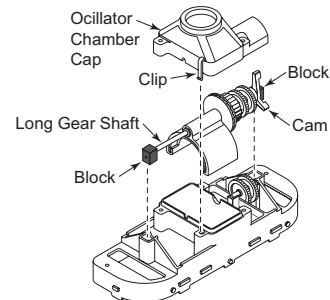
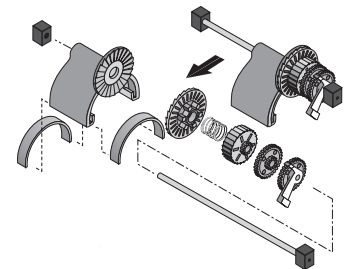

Figure 23a
Figure 23b
3. Turn lower body assembly right side up. Unsnap the 2 clips on the oscillator chamber cap (**Figure 23a**); lift it off.
4. Pull the long gear shaft straight up (**Figure 23a**) by the blocks on the ends of the shaft. Hold the seals in the oscillator and the blocks on the shaft. The cam may interfere with the shaft mounting post; if so, turn it slightly on the shaft until it clears the post. The shaft assembly can now be disassembled (**Figure 23b**).
5. Slide the long gear shaft out of the oscillator (with gears, complete); make sure that you don't lose the seals out of the oscillator which may fall out at this point (**Figure 23b**).